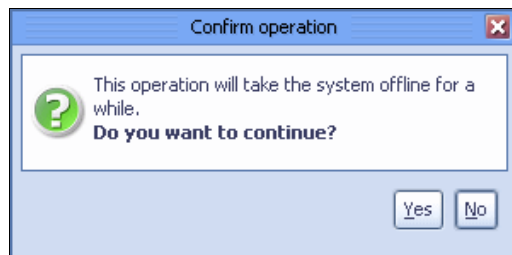

Figure 10-30 Re-assign devices: Confirm operation window
9. Click **Finish**. The Confirm Operation window opens (Figure 10-30).